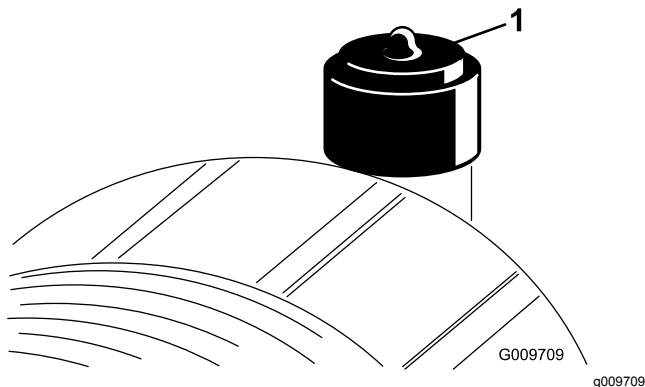

Figure 29
Service the air cleaner filter only when the service indicator (Figure 29) requires it. Changing the air filter before it is necessary only increases the chance of dirt entering the engine when the filter is removed.
6. Reset the indicator (Figure 29) if it shows red.